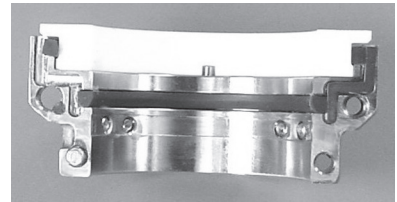

Figure 33
13.4 Push the rotating face radially into the seal drive and then down as the drive pin slips into the drive slot. The rotating face should sit flat on the vibration damper. See Figure 33.